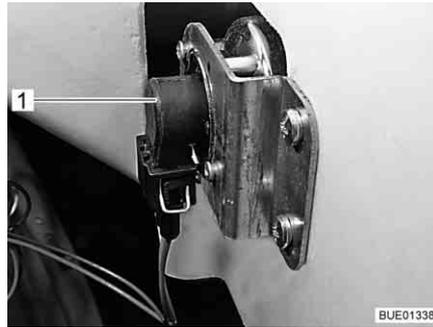

Fig. 286 Direction indicator
- Put your hand behind the lamp holder (Fig. 286,1).